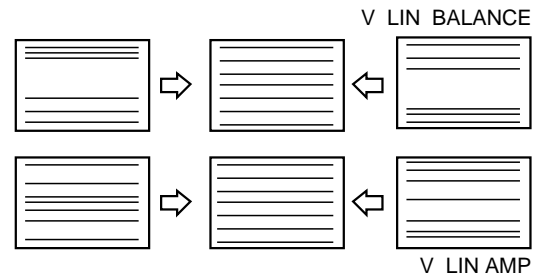

Fig. 1-9
8. Adjust the V SIZE, V LIN BALANCE, and V LIN AMP data as shown in Fig. 1-9.